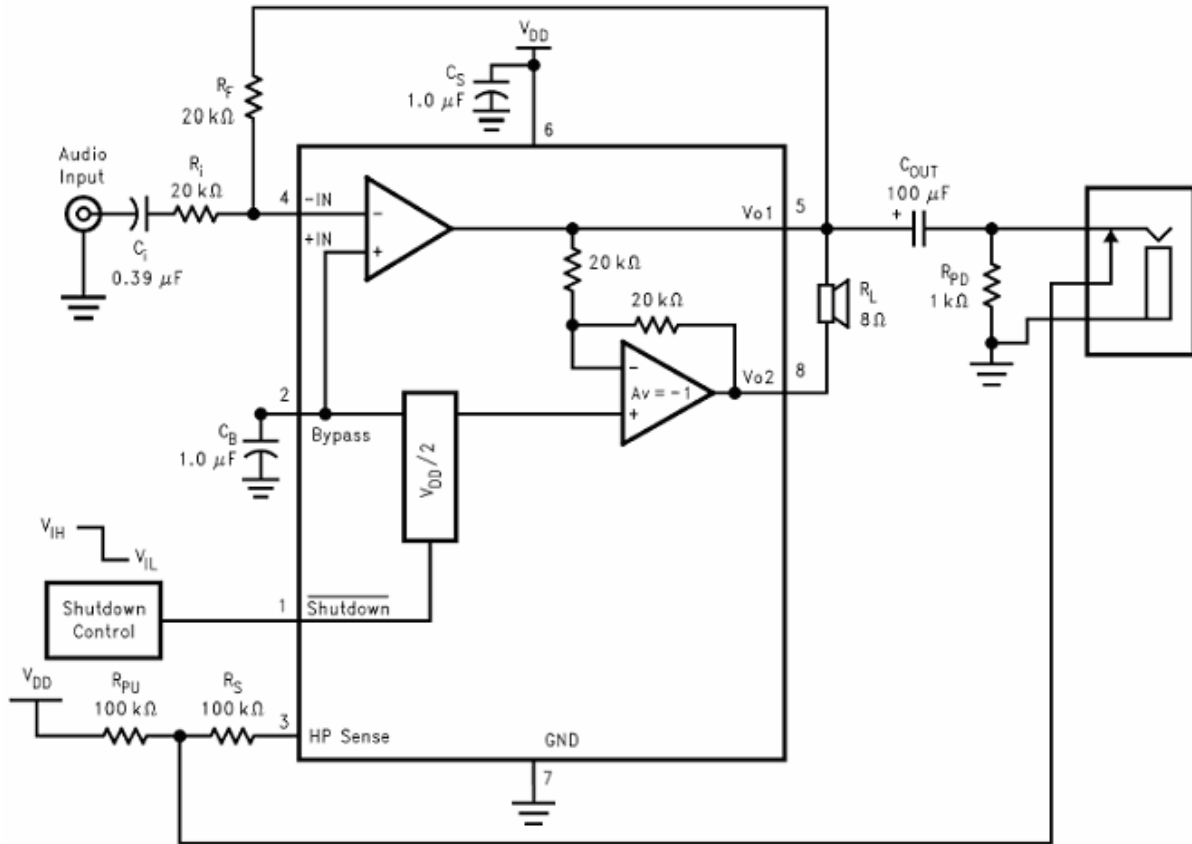

FIGURE 1. Typical Audio Amplifier Application Circuit
- PSRR at 217Hz, VDD = 5V (Fig. 1) 60dB(typ.)
The following specifications apply for the circuit shown in Figure 1 unless otherwise specified. Limits apply for TA = 25°C.
The following specifications apply for the circuit shown in Figure 1 unless otherwise specified. Limits apply for  $T_A = 25^\circ C$ .
**Note 10:** PSRR is a function of system gain. Specifications apply to the circuit in Figure 1 where  $A_v = 2$ . Higher system gains will reduce PSRR value by the amount of gain increase. A system gain of 10 represents a gain increase of 14dB. PSRR will be reduced by 14dB and applies to all operating voltages.
## External Components Description (Figure 1)
As shown in *Figure 1*, the EMA1001 has two operational amplifiers internally, A1 and A2, allowing for a few different amplifier configurations. A1's gain is externally configurable, while A2 is internally fixed in a unity-gain, inverting configuration. The closed-loop gain of A1 is set by selecting the ratio of  $R_f$  to  $R_2$ , while A2's gain is fixed by the two internal  $20k\Omega$  resistors. *Figure 1* shows that the output of A1 serves as the input to A2, which results in both amplifiers producing signals identical in magnitude, but out of phase by  $180^\circ$ . Hence, the differential gain for the IC is
To optimize device and system performance, proper selection of external components is critical. While the EMA1001 can support a wide range of external component combinations, careful selection of component values can maximize overall system quality. The EMA1001 is unity-gain stable, which gives the designer maximum system flexibility. The EMA1001 should be used in low gain configurations to minimize THD+N values, and maximize the signal to noise ratio. Low gain configurations require large input signals to obtain a given output power. Input signals equal to or greater than  $1\text{V}_{rms}$  are available from sources such as audio codecs. Please refer to the section, **Audio Power Amplifier Design**, for a more complete explanation of proper gain selection. Besides gain, one of the major considerations is the closed loop bandwidth of the amplifier. The bandwidth is primarily determined by the choice of external components shown in *Figure 1*. The input coupling capacitor,  $C_2$ , forms a first order high pass filter, which limits low frequency response. This value should be chosen based on needed frequency response for a few distinct reasons.